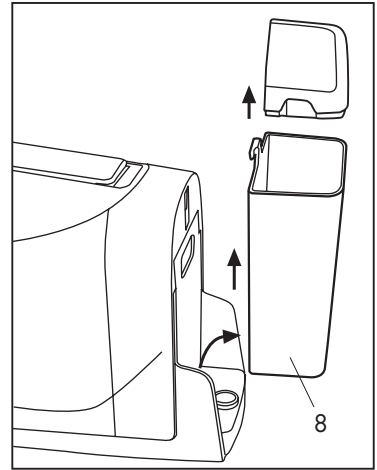

Fig. 1
- Take the tank (8) out of the machine by pulling it upwards, then remove the cover (Fig.1)